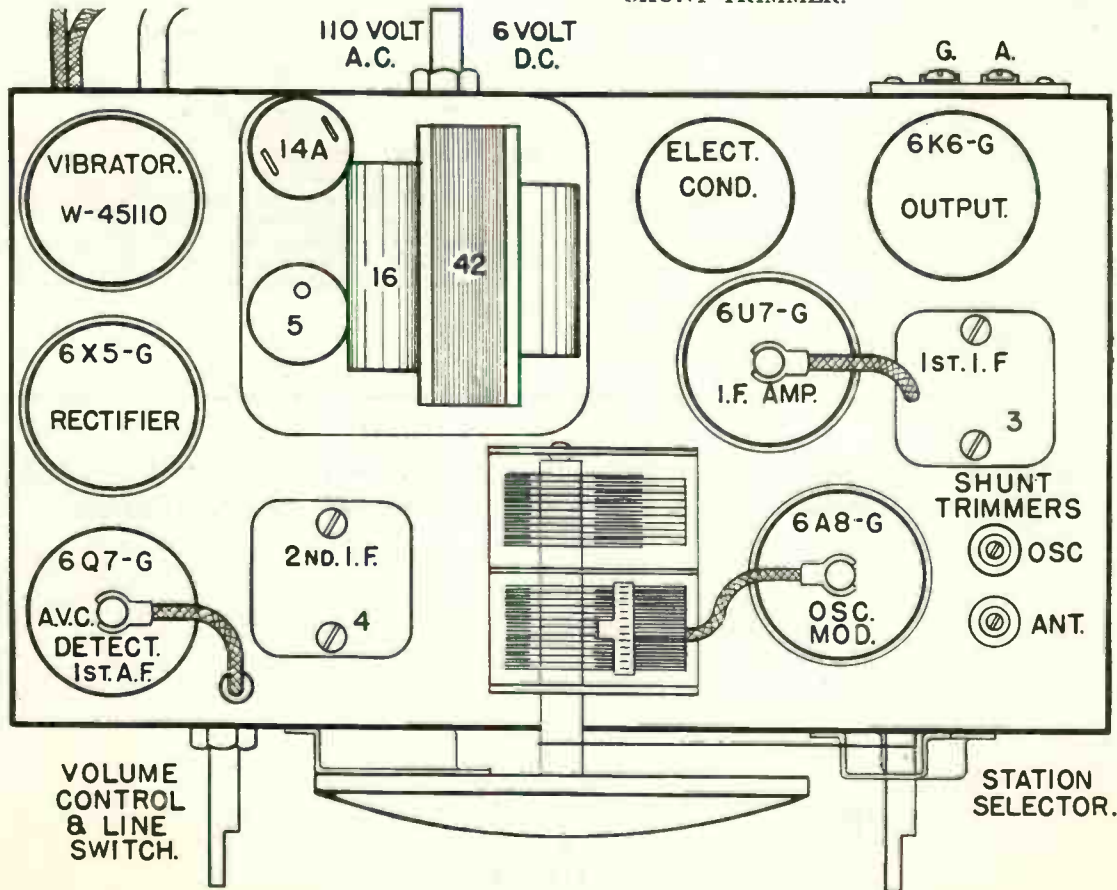

Fig. 2—Top View Models 587 and 5587
(d) Adjust the trimmer condensers located on the 2nd I. F. transformer, item 4—fig. 2, for maximum reading on the output meter.
(e) Adjust the trimmer condensers located on the 1st I. F. transformer, item 3—fig. 2, for maximum output.